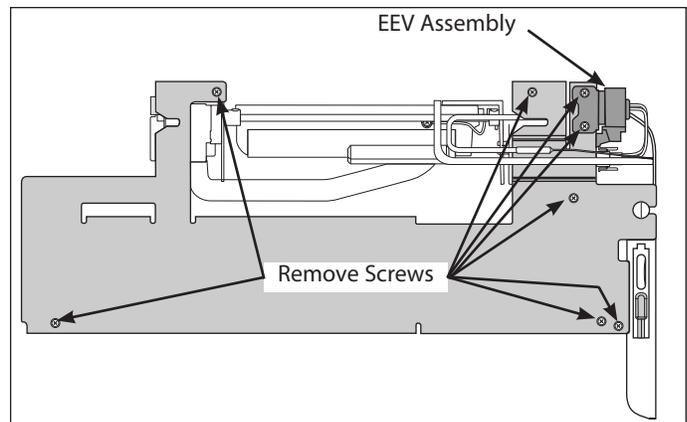

Figure 6-81.
To replace the ice maker side plate, remove the seven (7) screws shown in Figure 6-81. Carefully slide the cover out, paying special attention to the back portion around the EEV assembly and the copper tubing.